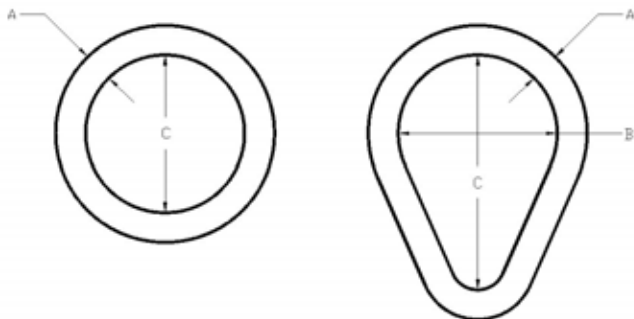

Figure 12. Dimension for Ring, Oblong Link and Pear Link.
- b. Check dimensions for deformations, See Figure 12.